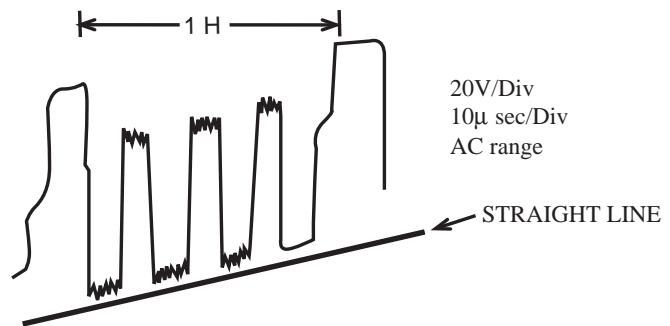

Fig. 2-5
- (1) Receive an NTSC 3.58 MHz color bar signal.
- (2) Connect an oscilloscope to Q903 Collector (on the NK C.B).
- (3) Adjust SFR303 so the bottom edges of the waveform fall on one line. (See figure 2-5)